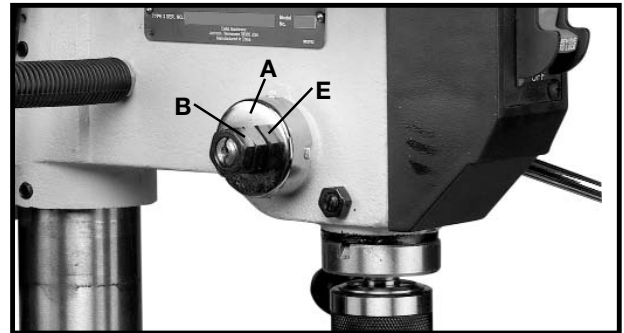

Fig. 28
2. Loosen nuts (B) and (E) Fig. 28. Make sure spring housing (A) stays engaged with head casting.